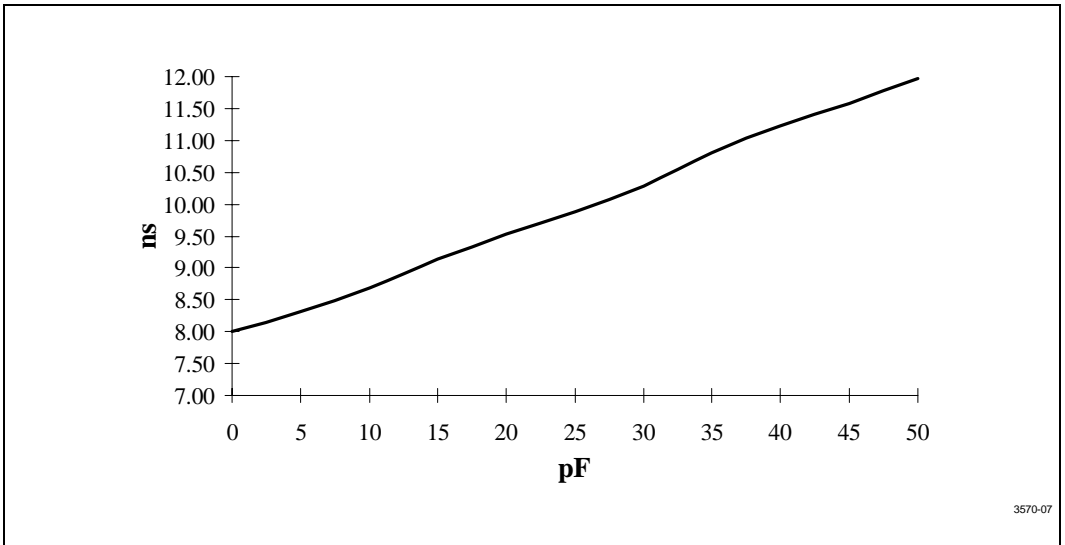

Figure 7. 3.3 V Tolerant Group Derating Curve
1. Valid delay timings for these signals are specified into 150  $\Omega$  to 3.3 V. See Figure 7 for a capacitive derating curve.